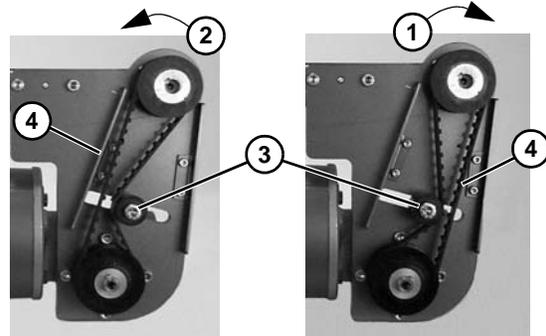
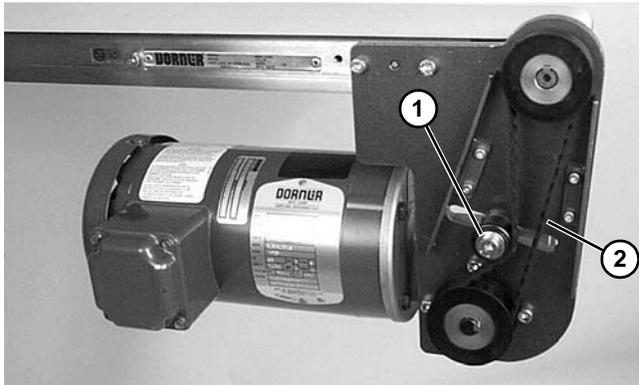

Figure 19
Figure 21
9. Depending on conveyor belt travel (direction 1 or 2), locate timing belt tensioner (Figure 19, item 3) as shown. Tension timing belt to obtain 0.125" (3 mm) deflection for 1.0 lb (456 grams) of force at timing belt mid-point (Figure 19, item 4). Tighten tensioner screw to 103 in-lb (12 Nm).
2. Loosen tensioner (**Figure 21, item 1**).
3. Depending on conveyor belt travel (direction 1 or 2), locate timing belt tensioner (**Figure 19, item 3**) as shown. Tension timing belt to obtain 0.125" (3 mm) deflection for 1.0 lb (456 grams) of force at timing belt mid-point (**Figure 21, item 2**). Tighten tensioner screw to 103 in-lb (12 N-m).
5. Depending on conveyor belt travel (direction 1 or 2), locate timing belt tensioner (**Figure 19, item 3**) as shown. Tension timing belt to obtain 0.125" (3 mm) deflection for 1.0 lb (456 grams) of force at timing belt mid-point (**Figure 19, item 4**). Tighten tensioner screw to 103 in-lb (12 N-m).